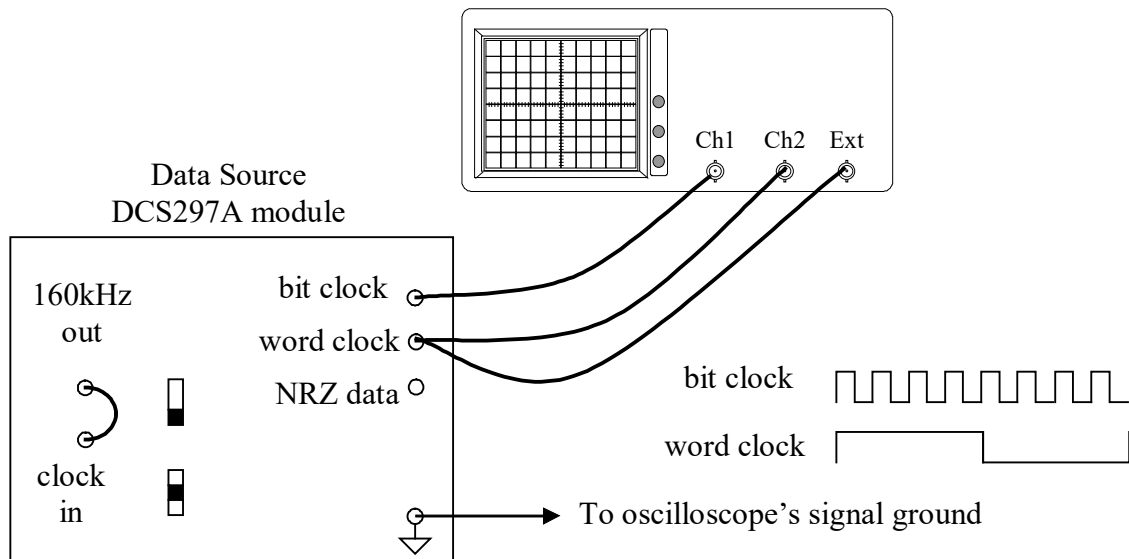

Figure E4.1 Observation of the bit clock and word clock
1. With power switched on, connect the Data Source Module to oscilloscope as shown in Figure E4.1.
On the oscilloscope, adjust the time/div knob and the “horizontal position” knob until you see the 8 cycles of the bit clock and 1 cycle of the word clock as shown in Figure E4.1.
5. Refer to Figure E4.1 and connect the "NRZ data" to CH2. Also connect the word clock to “Ext” on the oscilloscope. Using the row of black push-buttons on the Data Source Module, set up the binary pattern **01001100**.